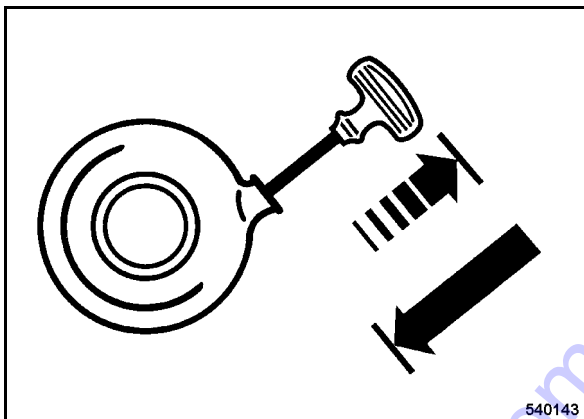

Fig. 24
- Pull the rope by the starter handle (Fig. 24) until resistance can be felt.